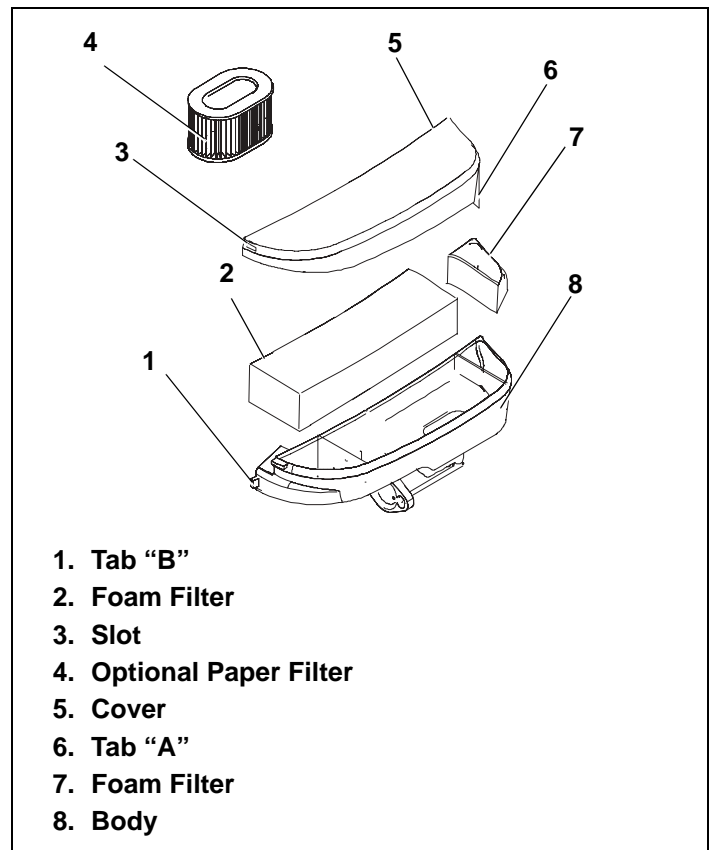

Figure 49. Air Cleaner Type "B" Assembly
1. Remove cover by pulling tab "A" away from body while lifting cover upward. See Figure 49.